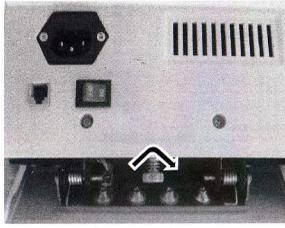

Figure 5
- Turn it left to increase the thickness (see figure5)